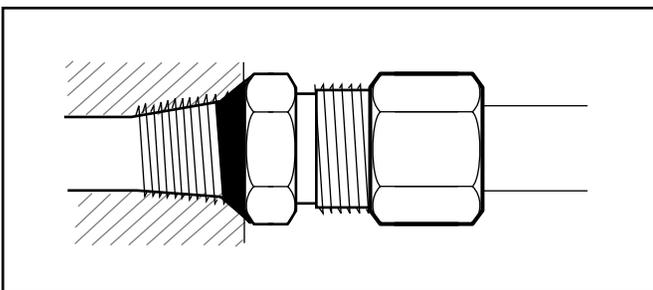

Figure 5.5 *Tighten ORS® Tube Fittings*
3. Align the ORS® tube fitting to the flat sealing connection and tighten the nut by hand. See Figure 5.5.